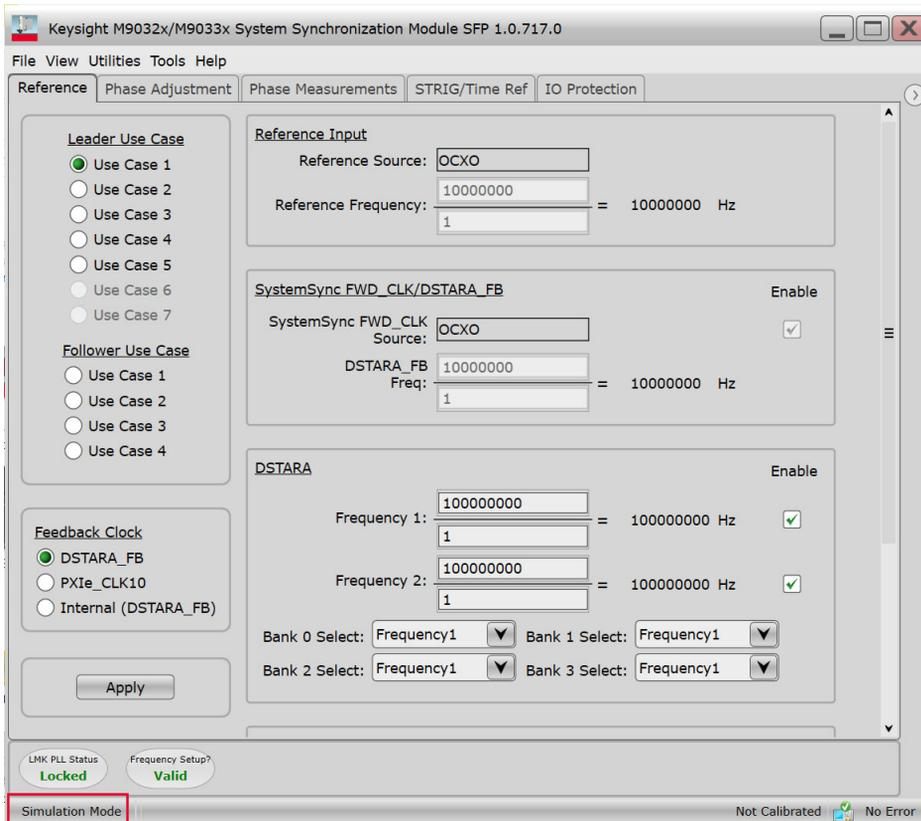

Figure 31 “Simulation Mode” in the status bar on the main window
- ‘Simulation mode’ enabled—This is the default mode of SFP operation. The **Simulation Mode** check box is selected by default and the **Simulate** button is displayed on the window. As the name indicates, this mode is used for offline SFP operations. In this mode, even if you select an active module (which is connected to a chassis in powered on state), toggling the SFP controls does not affect the signal state on the module. The status bar on the main window shows ‘Simulation Mode’, as shown in Figure 31.